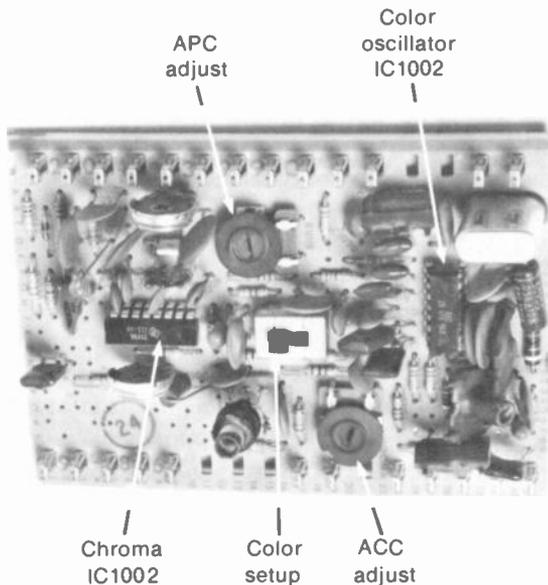

FIGURE 17-1 COLOR CIRCUITS ON PLUG-IN BOARD. WIDTH IS 5 IN. (ZENITH CORPORATION)
The color section in the television receiver amplifies the 3.58-MHz chroma (C) signal, detects the modulation, and provides red, green, and blue video signals for the three guns of the tricolor picture tube. The color circuits are usually on a plug-in board, as shown in Fig. 17-1. In addition, the luminance (Y) signal is amplified to form a monochrome picture on the raster. Then the color information can be superimposed on the black-and-white picture. The theory of color television and block diagrams of color receivers are described in Chaps. 8 and 9, but here we analyze the basic circuits in the color section. Automatic circuits that are generally used to obtain the best color picture are described in the next chapter. The fundamental requirements for color can be seen from this list of circuits: